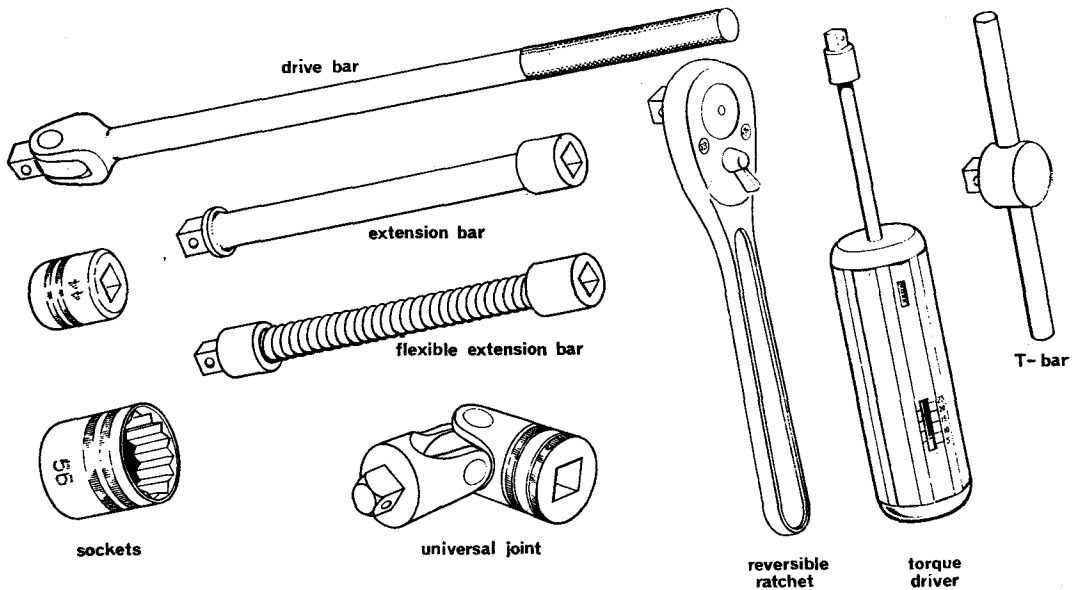

Fig. 9 Socket spanner set
11. **Socket spanners.** These spanners combine the advantages of both ring and box spanners. They are usually supplied in sets with ratchet handles and extension pieces to enable them to be used in almost any position (Fig. 9). They can be driven by power tools fitted with a suitable torque clutch. A hand operated torque wrench is shown in Fig. 9.